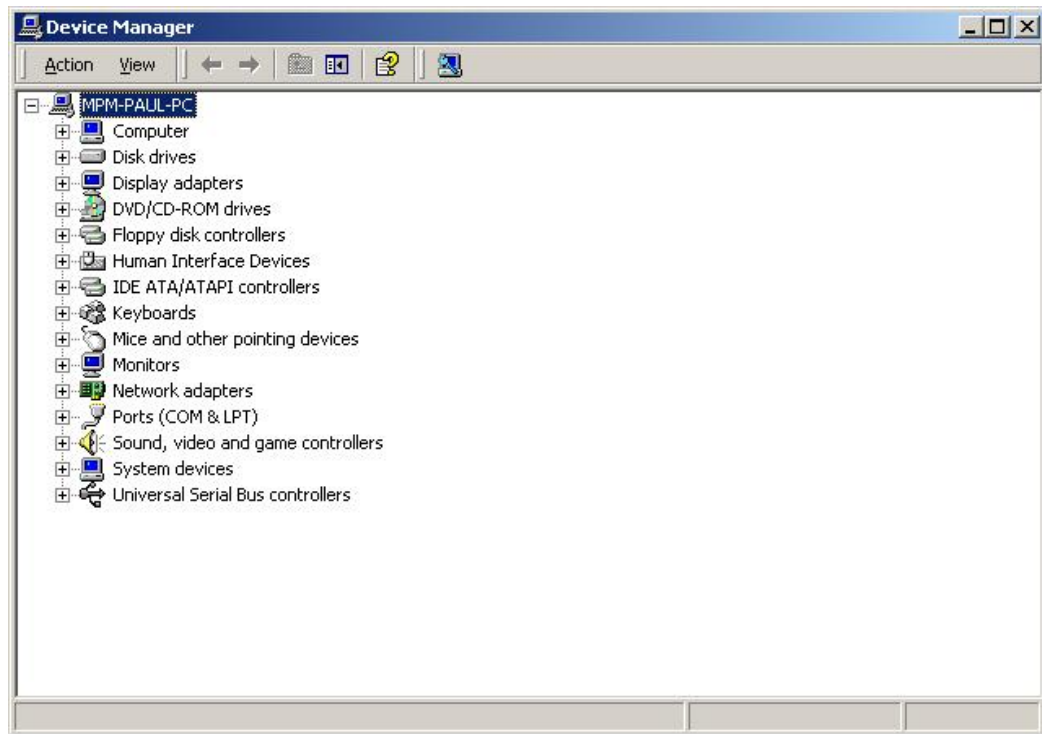

Figure 7-28: Device Manager List
**Step 4:** A list of system hardware devices appears (Figure 7-28).